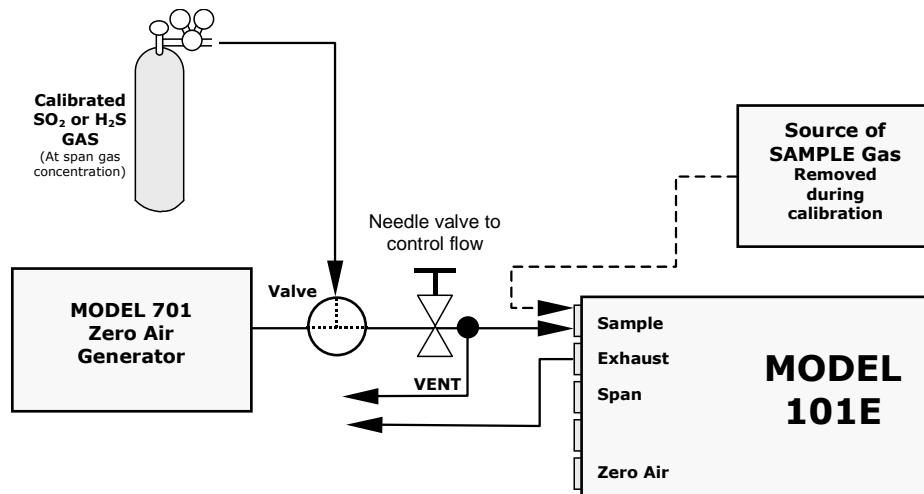

Figure 3-6. Pneumatic Connections—Basic Configuration—Using Bottled Span Gas
Figures 3-6 and 3-7 show the most common configurations for gas supply and exhaust lines to the Model 101E Analyzer. Figure 3-8 shows the connections for units with valve options installed.
10. Attach zero air and span gas supply lines as appropriate (see Figures 3-6 & 3.7). For this type of analyzer, zero air and span gas are defined as follows: